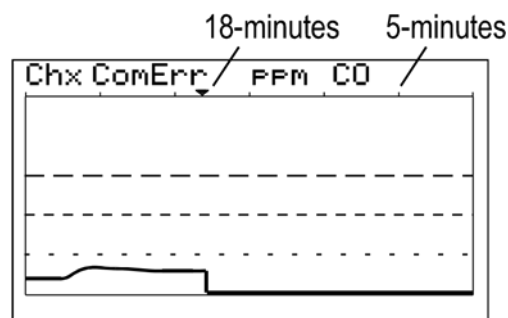

Figure 6-4 – Wireless Chx ComErr Screen
- **Communications Error** – Each channel's 30-minute trend screens (Figure 6-4) are very useful for diagnosing wireless problems since it indicates amount of time since the most recent transmission was received. The down arrow on top of the trend screen resets to far right each time a transmission is received by that channel. When not in alarm, TXP-WTAs transmit each 5-minutes so the arrow should never progress past the 5-minute interval. The TXP-C40 activates the channel's FAULT alarm and indicates ComErr if no transmission has been received in 18 consecutive minutes.